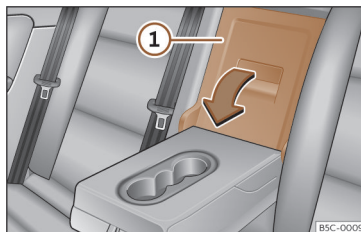

Fig. 132 In the rear seat backrest: opening the trapdoor.
- Pull the release lever in the direction of the arrow and push the tailboard cover >>> **Fig. 132** ① down and forwards.